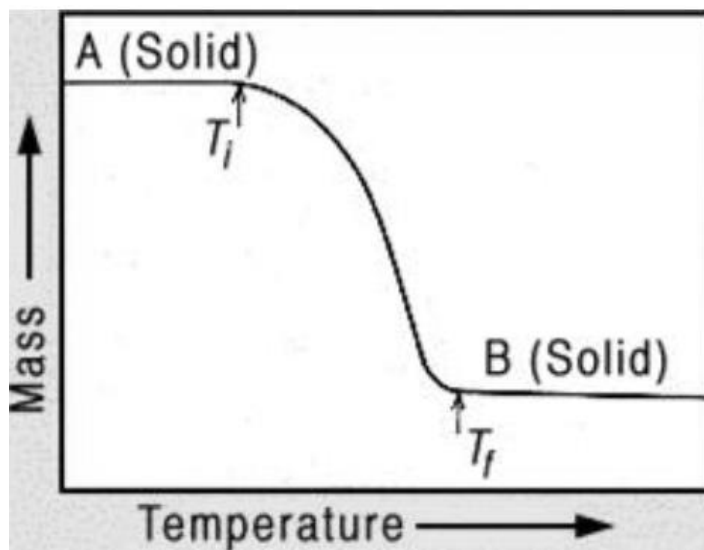

Fig.1.Characteristics of a single-stage mass-loss curve
Results are displayed by a plot of mass change versus temperature or time and are known as Thermogravimetric curves or TG curves. TG curves are normally plotted with the mass change (Dm) in percentage on the y-axis and temperature (T) or time (t) on the x-axis. A typical TG curve has been shown (Figure 1). There are two temperatures in the reaction, T_i (procedural decomposition temp.) and T_f (final temp.) representing the lowest temperature at which the onset of a mass change is seen and the lowest temperature at which the process has been completed respectively. The reaction temperature and interval ($T_f - T_i$) depend on the experimental condition; therefore, they do not have any fixed value.
The plot of weight/mass against temperature or time produced by a thermogravimeter is called Thermogram. The following features of TG curve should be noted from Figure 1 or 3.